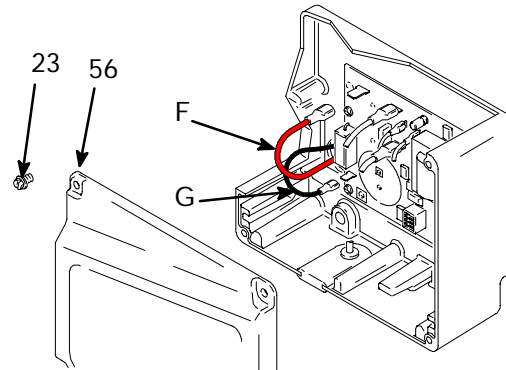

Fig. 2
3. Fig. 2. Remove four screws (23) and pressure control cover (56). Disconnect motor leads (F) and (G).